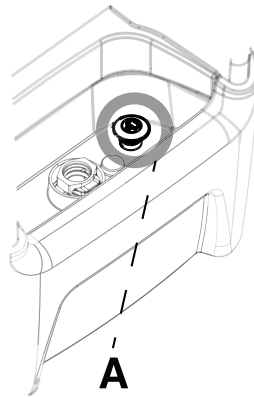

Figure 1-24: Drain plug
- To drain the controller, pull up on the controller drain plug (A) to open the drain (Figure 1-24 on page 1-41). Leave the drain open.